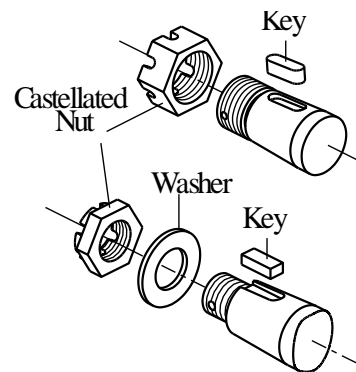

Fig.15
26. Install key in shaft key groove. For cone shafts install washer and screw castellated nut (see Fig.15).